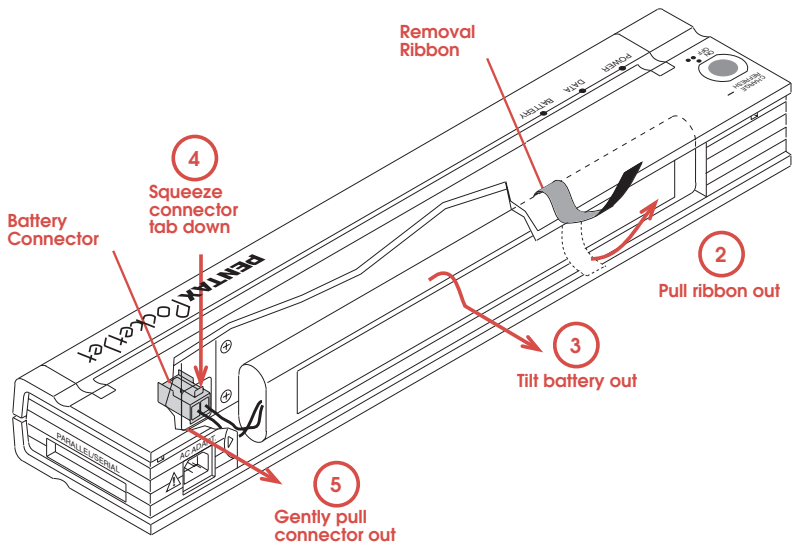

FIGURE 7. Instructions for removing the battery.
- 2 Pull out on the battery removal ribbon as shown in Figure 7 until the battery starts to tilt out of its compartment.